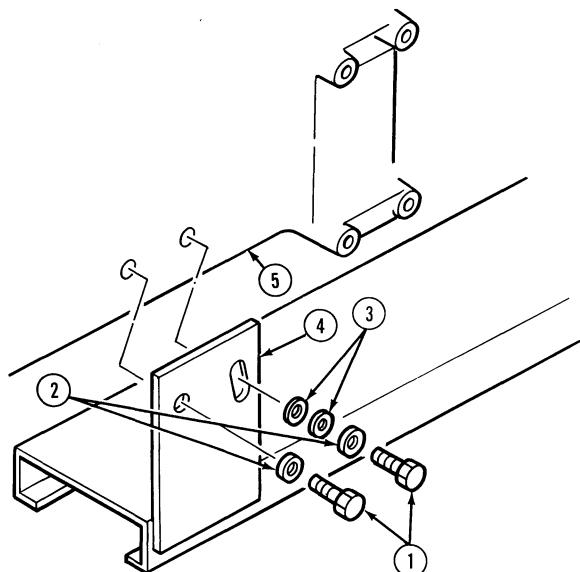
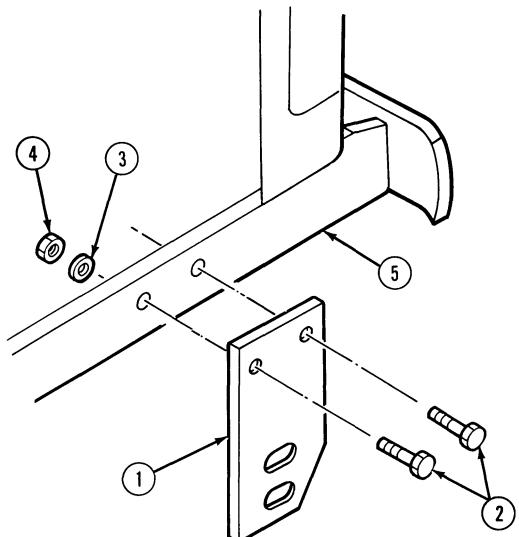
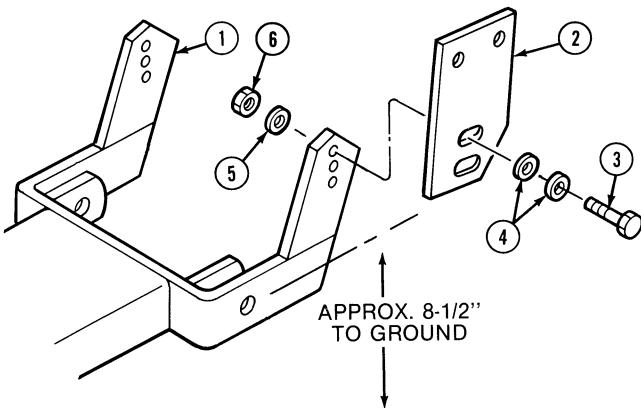

Figure 6
Figure 5
Figure 7
1. Attach the front mounting bracket, (1), Figure 5 to the outside of the tractor frame, (5).
Attach the front mounting brackets using four 1/2" NF x 1-3/4" hex hd. bolts, (2), lockwashers, (3), and nuts, (4), as shown in Figure 5. Do not tighten the bolts at this time.
2. Attach the rear frame, (4), Figure 6, to the back hole on the side mid section of the tractor, (5),
using two M14 x 1.50 x 30 mm hex hd. bolts, (1), lockwashers, (2), and stud and thread sealer, as shown in Figure 5. Do not tighten bolts at this time.
3. Attach the rear frame (1), Figure 7, to front mounting bracket, (2), using two 1/2" NF x 1-3/4" hex hd. bolts, (3), lockwashers, (5), nuts, (6), and four flat washers, (4), as shown in Figure 7. Do not tighten the bolts at this time. Use two flat washers over each slotted hole, as shown.
4. Attach the rear frame, (4), Figure 6, to the front hole on the side mid section of the tractor using, two M14 x 1.50 x 30 mm hex head bolts, (1), lockwasher, (2), four flat washers, (3), and stud and thread sealer. Use two flat washers over each slotted hole as shown.
IMPORTANT: *Torque the bolts attaching the rear frame to the tractor mid section (Figure 6) to 90-106 lbs.-ft. Torque the bolts attaching the rear frame to the front mounting brackets (Figure 7), and front mounting brackets to the tractor frame (Figure 5) to 80-96 lbs.-ft.*